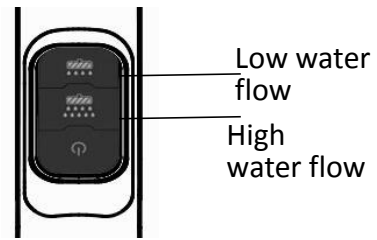

Figure 4-10
Step 1: While pressing the sewage tank release button, remove the sewage tank from the body, as shown in Figure 4-10;